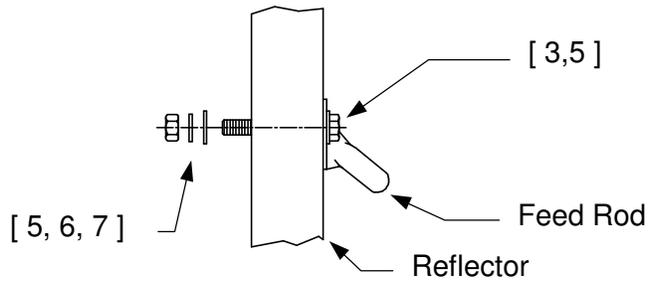

**FIGURE 2**
A). Attach right and left feed rods to the reflector with (items 3, 6, 7) and with (2) of ( item 5 ). See Figure 2 and Detail A.